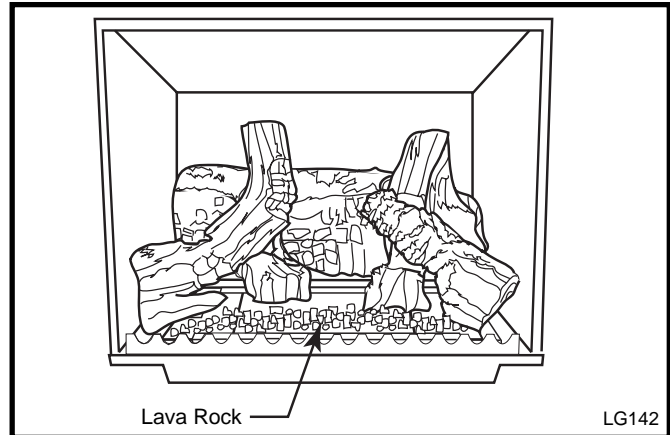

Fig. 41 Completed log installation.
5. Loosely sprinkle the lava rocks directly on top of the burner in front of and between the decorative grate and the right and left logs. Use the lava rock to cover brackets on the burner. (Fig. 41)
8. The air shutter is located on the bottom of the burner to the left. (Fig. 41) Unfasten the two nuts holding the shutter in place. The shutter may be adjusted between the factory adjusted 1/2" to fully open. Reassemble the shutter to allow the rear injector air inlet to close from the minimum 1/2" opening to fully open. (Fig. 45) You may have to try more than once to find the correct air shutter opening for best results depending on your altitude.